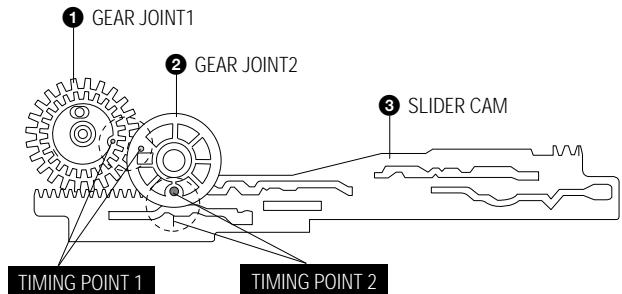

Fig. 2-20 Gear Joint 1,2 Assembly
- 1) Be sure to align dot mark of Gear Joint 1 ④ with dot mark of Gear Joint 2 ② as shown Fig 2-20.